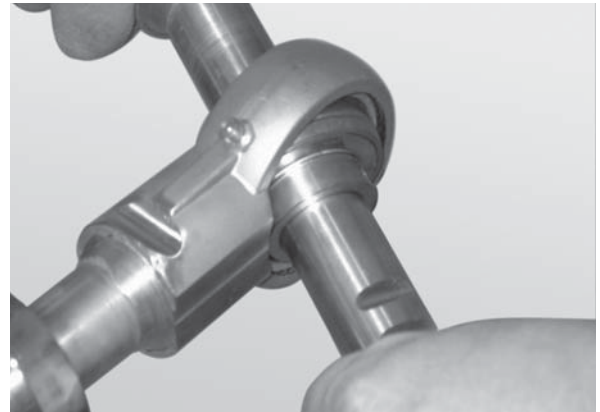

Figure 70
2. Insert the rod end of a second bearing shaft through the bearing (**Figure 70**).